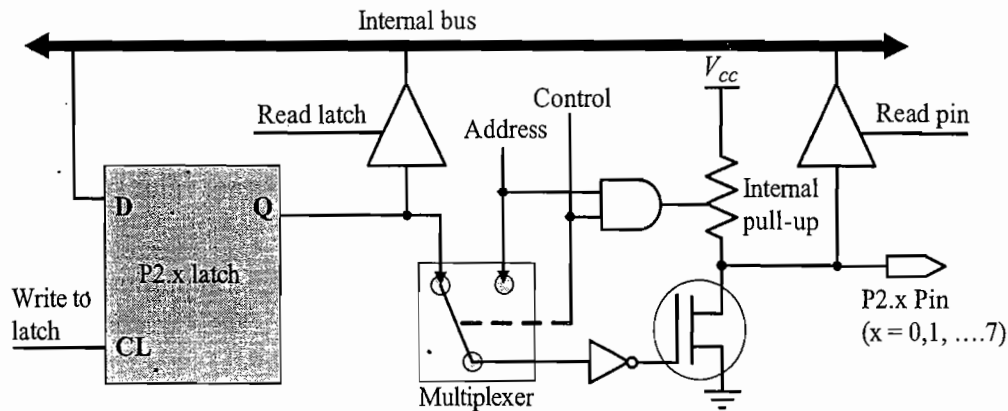

Fig. 5.12 Port 2 pin organisation
5.3.5.3 Port 2 Port 2 is designed to operate in two different modes. It acts as general purpose I/O port in normal operational mode and acts as higher order address bus in external data memory/program memory operations. Figure 5.12 illustrates the Port 2 pin organisation.